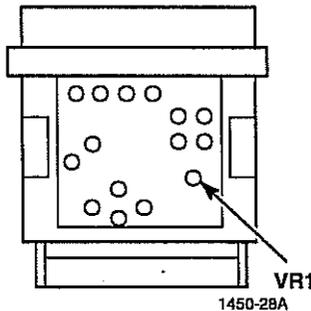
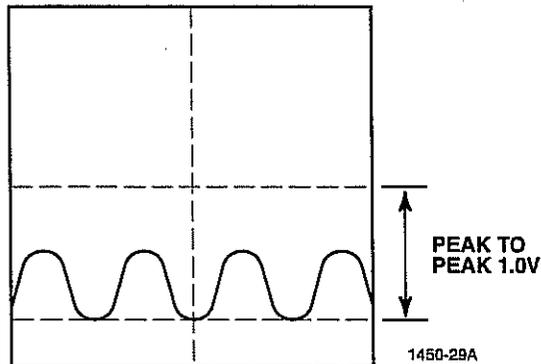

Figure 3-23.
Figure 3-24. Unacceptable Waveform.
6. Adjust VR1 (Figure 3-23) for a peak-to-peak value of 1.0 VAC. A waveform that falls short of maximum peak height (see Figure 3-24) indicates that further adjustment is required. An acceptable peak-to-peak waveform is illustrated in Figure 3-25.